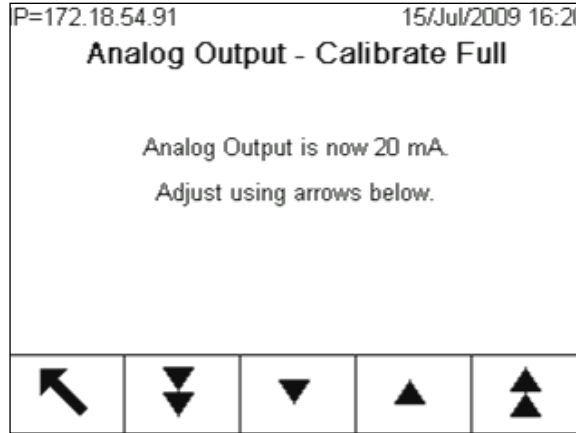

Figure 2-6: Analog Output – Calibrate Full Screen
- At the **Analog Output - Calibrate Full** screen (Figure 2-6), use the softkeys to adjust the analog output signal to be exactly what the customer's device requires for its high limit. The available softkeys are described in Table 2-2.